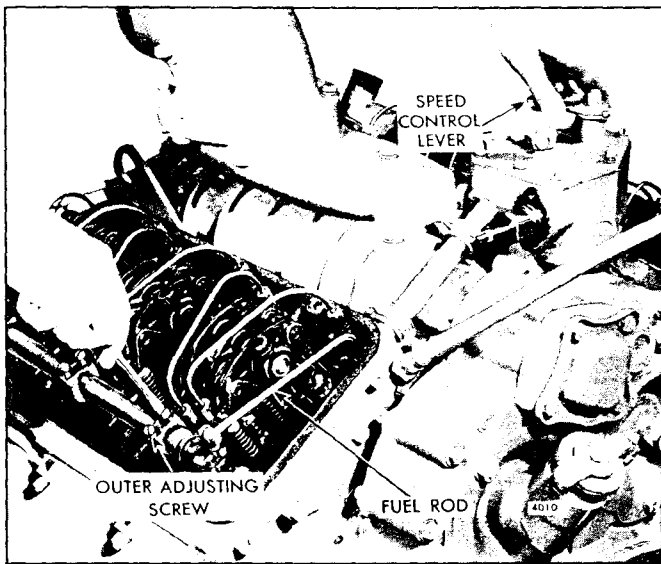

Fig. 3 - Positioning No. 3L Injector Rack Control Lever
6. Move the speed control lever to the maximum speed position; hold it in that position with light finger pressure. Turn the inner adjusting screw on the No. 3L injector rack control lever down as shown in Fig. 3 until a slight movement of the control tube lever is observed or a step-up in effort to turn the screw driver is noted. This will place the No. 3L injector in the full-fuel position. Turn down the outer adjusting screw until it bottoms lightly on the injector control tube. Then alternately tighten both the inner and outer adjusting screws. This should result in placing the governor linkage and control tube assembly in the same positions that they will attain while the engine is running at full load.